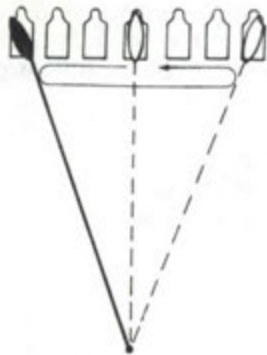

Figure 1.
a. **Linear Targets.** The gunner must engage the entire width of the target. He lays his gun on the center of mass, or portion of the target which presents the greatest threat. The gunner traverses his fire to either flank, then covers the remainder of the target (figure 1).